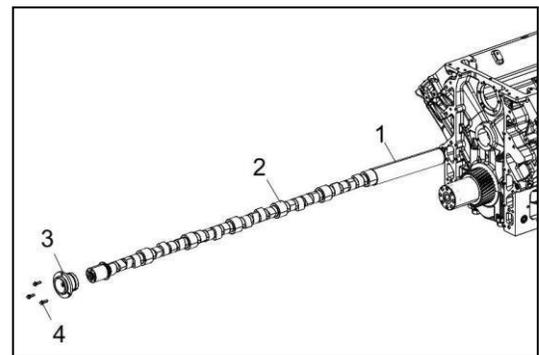

Figure 141
3. Install the camshaft (Figure 141, 2), gradually rotating it as you insert it.
Use the camshaft installment tool (Figure 141, 1) if necessary.
4. Apply a film of oil to the bearing bore. Fit the bearing (Figure 141, 3), taking care to position the lubrication groove at the top at 12 o'clock.
5. Apply a film of Loctite 242 to the fasten bolts (Figure 141, 4) and tighten to a torque of 31N·m.